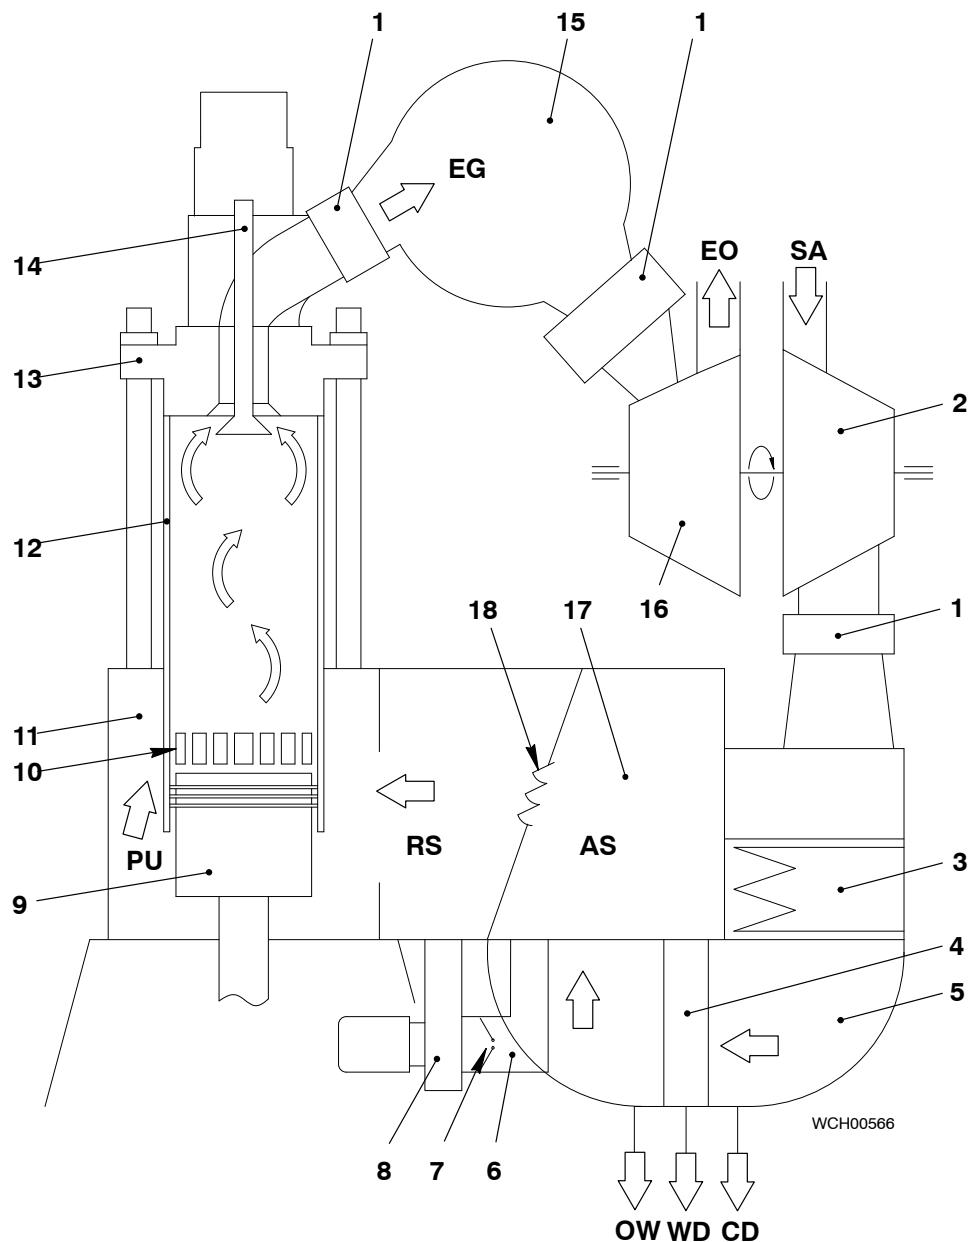

Fig. 1: Schematic Diagram – Turbocharger Operation
Exhaust gas (EG, Fig. 1) from the cylinders collects in the manifold (15). The exhaust gas moves the turbine (16), then flows out through the exhaust gas outlet (EO) to the exhaust system of the vessel. The exhaust gas turns the turbine and moves the compressor (2), which is attached to the same shaft. The compressor pulls fresh air (FA) from the engine room through a filter/silencer.